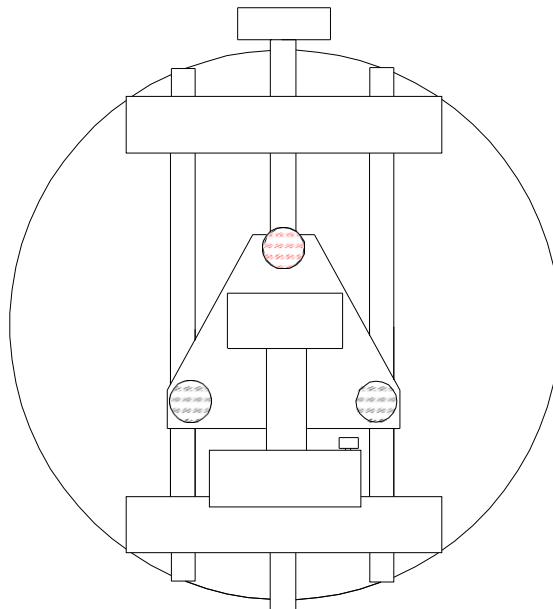

Figure 17
- 12) Rotate the wheel until the clamping knob is at a 12:00 o'clock position (Fig 17). Level the TLT-30, and adjust the caster knob until the caster bubble reads zero.